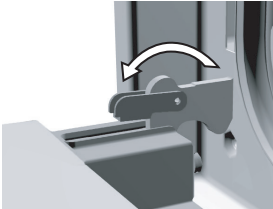

Figure 1
- The guide rack is held in place by a clip. To remove the guide rack, hold it by the lower end and pull towards the center of the oven (fig 1). Make sure that the guide has been released from both clips then rotate inwards (fig 2) to remove from the side of the oven.
- Fully open the oven door and rotate the stoppers all the way back (Figure 1).